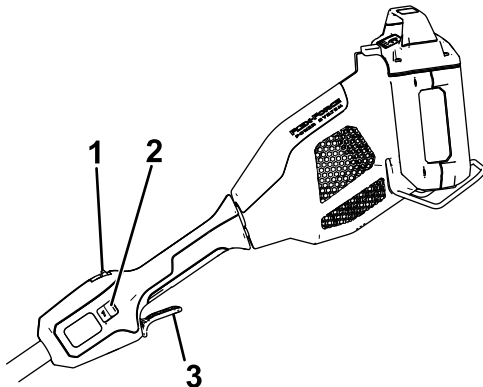

Figure 6
4. To start the attachment, press the lockout button, then squeeze the run trigger (Figure 6).
To shut off the cultivator, release the run trigger (Figure 6). Allow at least 5 seconds for the blades to stop moving.